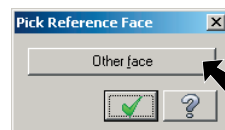
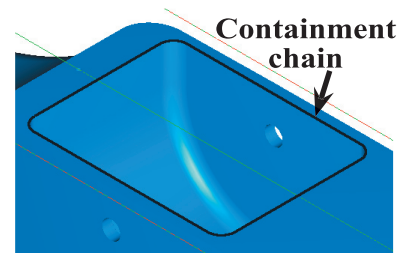

Fig. 42
Fig. 41
Step 9. Click an edge of the wheel cutout, Fig. 41. The edges of the bottom body face and the wheel cutout should be selected. If the wrong edges are selected, click **Other face** in Pick Reference Face dialog box, Fig. 42. Click the OK button  in the Pick Reference Face dialog box.